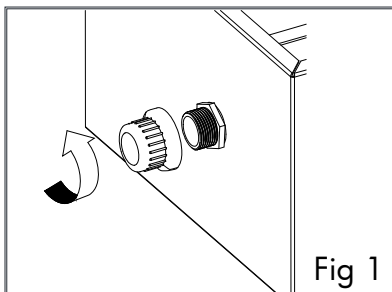
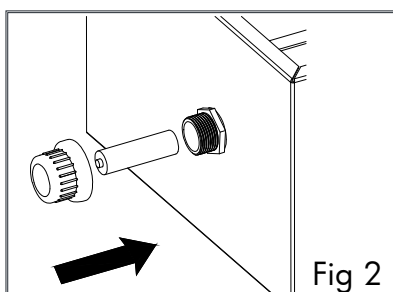
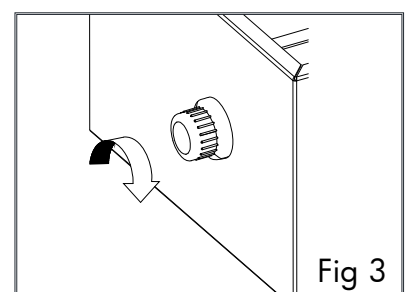

Fig 1
Fig 2
Fig 3
- 6 - Unscrew the battery box as shown in Fig 1. Insert the negative electrode side of the battery into the bottom of battery box as shown in Fig 2. Then screw the battery box as shown in Fig 3.